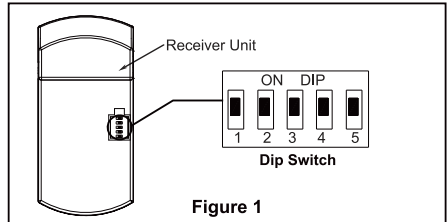

Figure 1
- ☐ 1. Assemble canopy by rotating key slot in canopy over shoulder screw in hanger bracket. Tighten shoulder screw. Fully assemble and tighten second shoulder screw that was previously removed. (Figure 1)